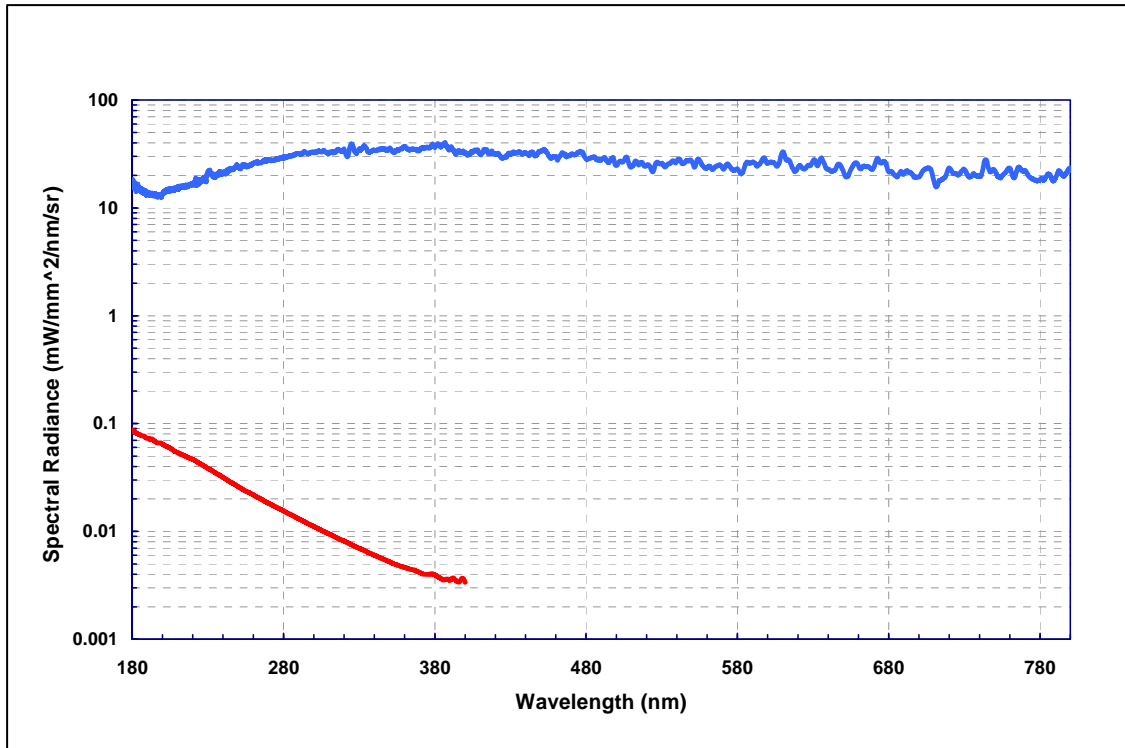

Figure 2: Typical output spectrum
- Typical output spectrum: see Figure 2.